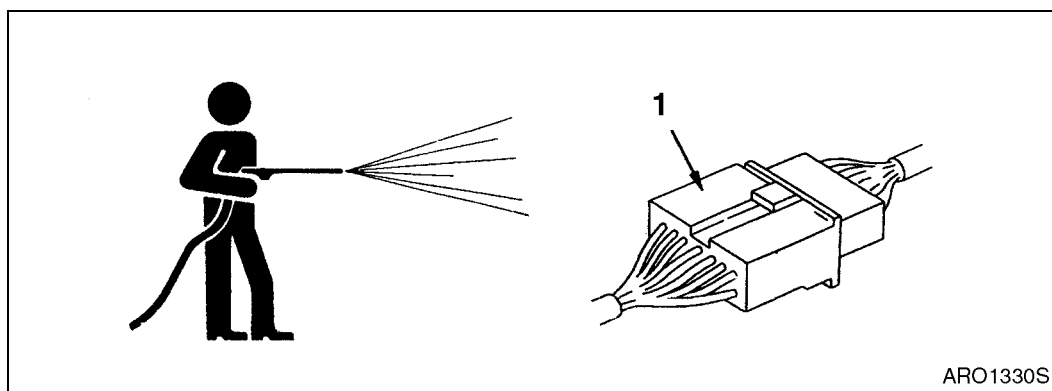

Figure 29
- Do not spray water directly on electrical components (sensors, connector) (1, Figure 29). If water gets into the electrical system, there is danger that it will cause defective operation and malfunction.